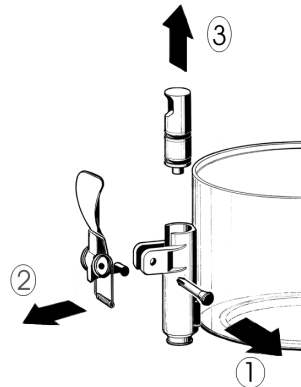

figure 1
- 3 Dismantle the faucet following the sequence shown (see fig. 1)
3 Reassemble the faucet assembly on the container in the opposite way to which it was dismantled (see fig. 1).